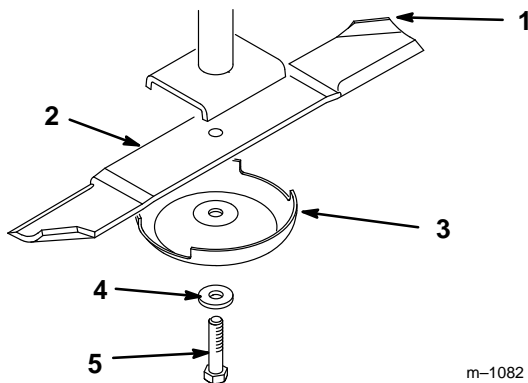
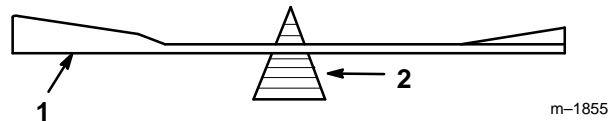

Figure 14
Figure 16
Hold the blade end using a rag or thickly-padded glove. Remove the blade bolt, washer, anti-scalp cup and blade from the spindle shaft (Fig. 14).
2. Check the balance of the blade by putting it on a blade balancer (Fig. 16). If the blade stays in a horizontal position, the blade is balanced and can be used. If the blade is not balanced, file some metal off the end of the sail area only (Fig. 14). Repeat this procedure until the blade is balanced.
1. Install the blade onto the spindle shaft (Fig. 14).
2. Install the lock washer and blade bolt (Fig. 14). Torque the blade bolt to 85–110 ft-lb (115–140 N•m).